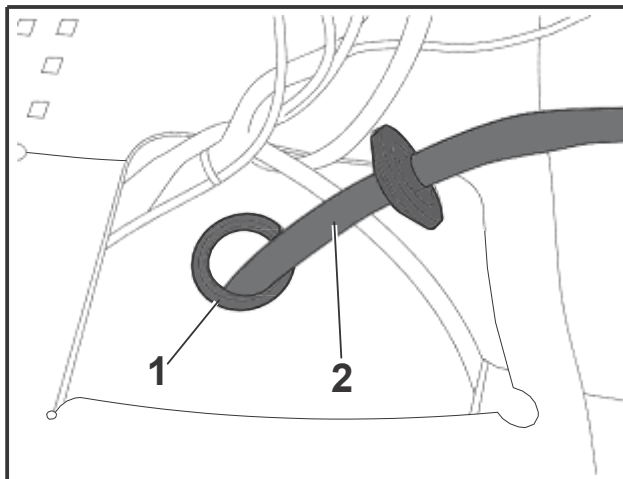
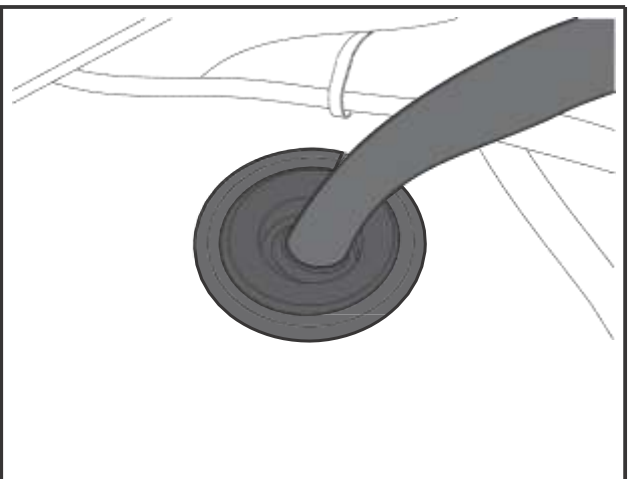

Fig. 2: double cab cable feed-through
Fig. 3: double cab wiring set
- 7b. Vehicles with a double cab: remove the vehicle's plug (Fig. 2/1) below the left seat, cut out the inner cover of the plug and insert the plug back into the vehicle. Pull the wiring harness (Fig. 2/2) from the outside through the opening in the plug into the vehicle interior and seal with the cable duct attached to the wiring harness (Fig. 3). Also seal up the wiring harness/plug with workshop tools (e.g. butyl tape).